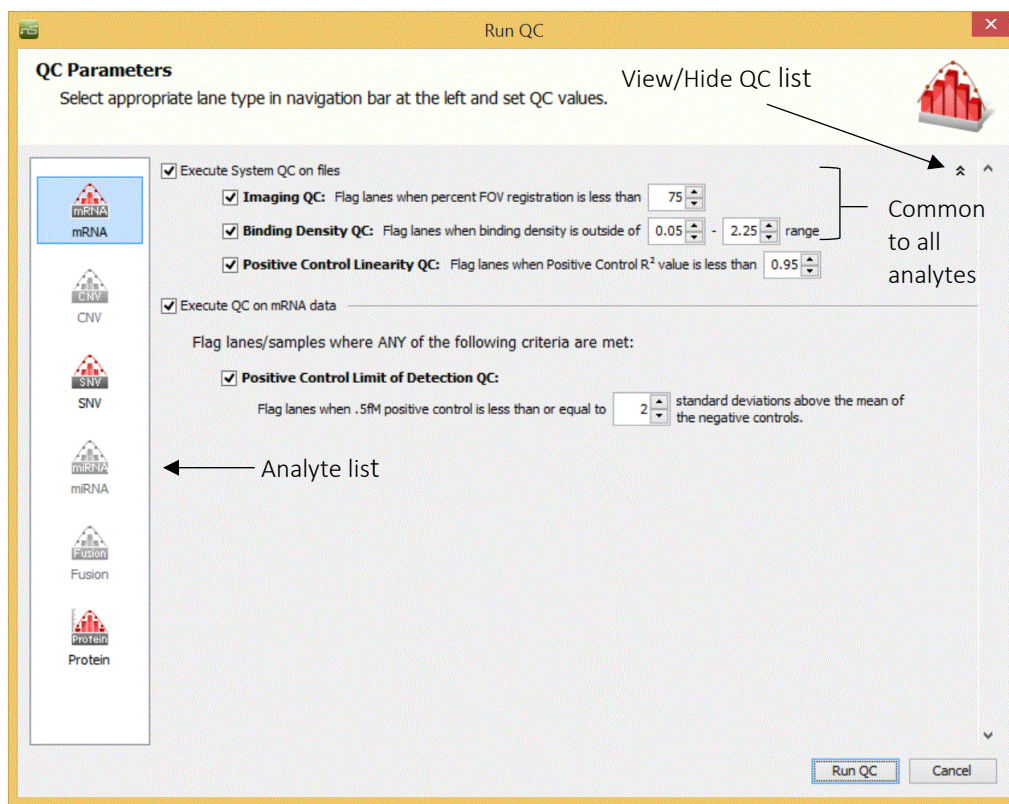

Figure 16: QC parameters window
The Quality Control (QC) Parameters window (Figure 16) appears when importing files for analysis and can reappear by selecting the QC button (see the Using Table Options Buttons section). The parameters listed will depend on the analyte types detected in the dataset. Select the analyte icon from the analyte list on the left side of the window to see the associated QC parameters. You can select or de-select individual QC parameters to indicate whether your samples should be assessed for each, however, it is recommended that an overall QC check be performed on all imported data. See additional details in the respective assay-specific sections for Plex² and PlexSet assays.